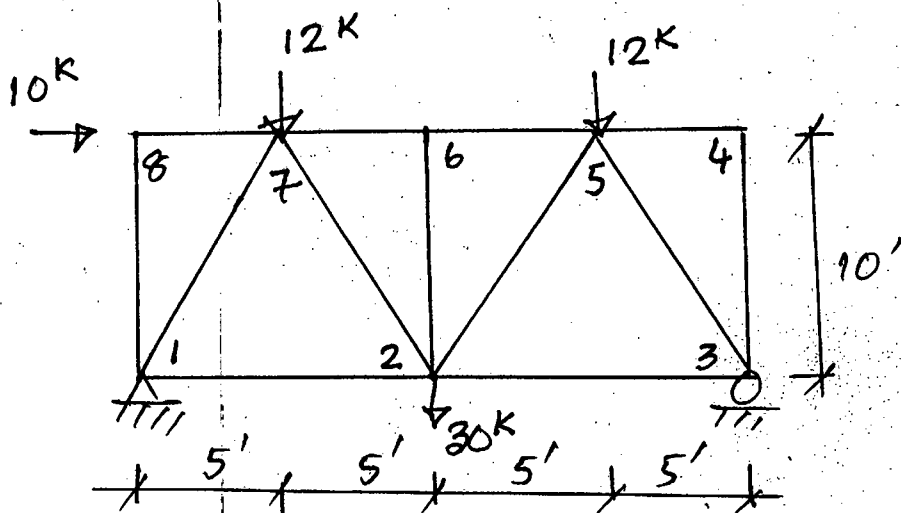

Figure 7
8. (a) For the pin-jointed truss shown in Figure 7, determine the forces in members 18, 26, 35 and 56 caused by the applied loads.